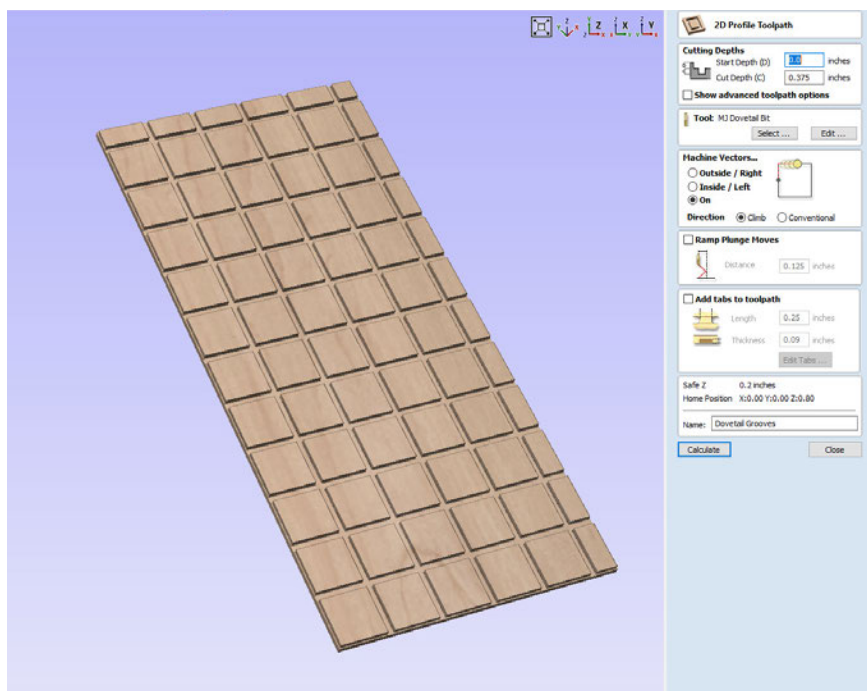

Fig 13c - Spoilboard CAM 2
- 13.4.** Program a 3/8" (9.5mm) deep cut centered along each of the lines using the MATCHFIT Dovetail Router bit, or any suitable 1/2" (12.7mm) wide, 14-degree dovetail bit. This cut **MUST** be programmed with no ramp and at the full 3/8" (9.5mm) depth. (Fig 13c)